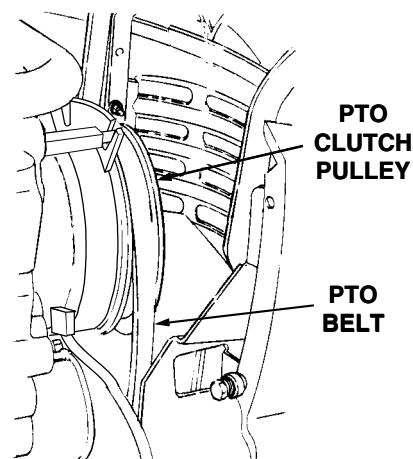

Figure 44
5. Open the tractor hood and remove the forward end of the PTO belt from the PTO clutch pulley on the front of the engine (Refer to Figure 44).